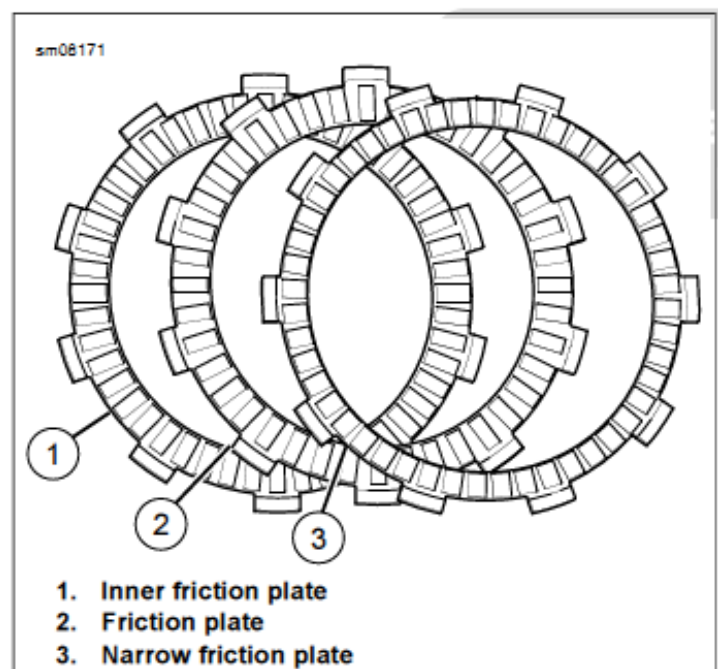

Figure 5-13. Friction Plates
- a. Remove clutch nut (3)
- b. Remove cup washer (4)
- c. Remove clutch (5)
- d. Remove thrust washer (6)
9. Remove clutch plates from basket, note order and direction. Inner most friction plate has more oil grooves than the other plates. Outer most friction plate is narrower to accommodate the damper spring and seat. Figure 5-11, Figure 5-12, Figure 5-13